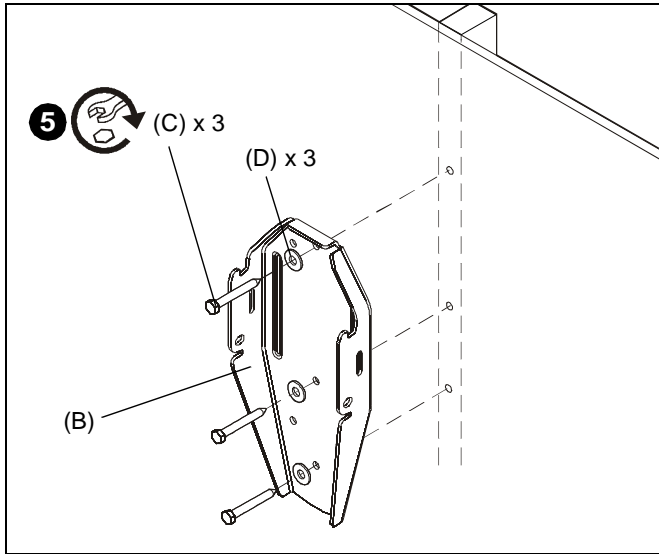

Figure 4
5. Install three 5/16 x 2-1/2" hex head lag screws (C) through three 5/16" washers (D), inner holes of wall bracket (B) and into drilled holes. (See Figure 4)